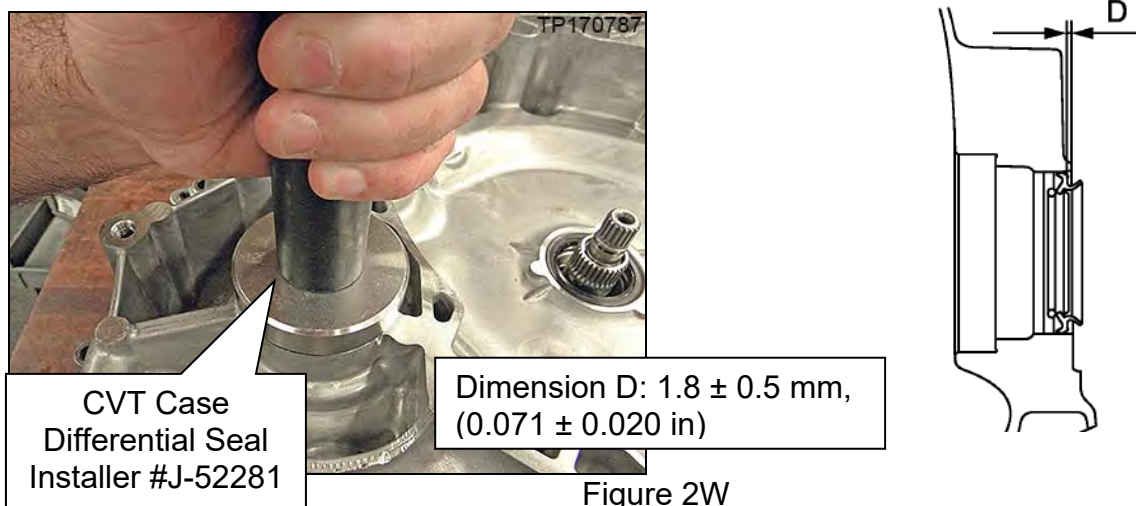

Figure 2W
2. Install the differential side oil seal to the converter housing (Figure 2W).
- Drive the differential side oil seal in until the amount of oil seal protrusion from the torque converter housing edge matches Dimension D shown in Figure 2W.